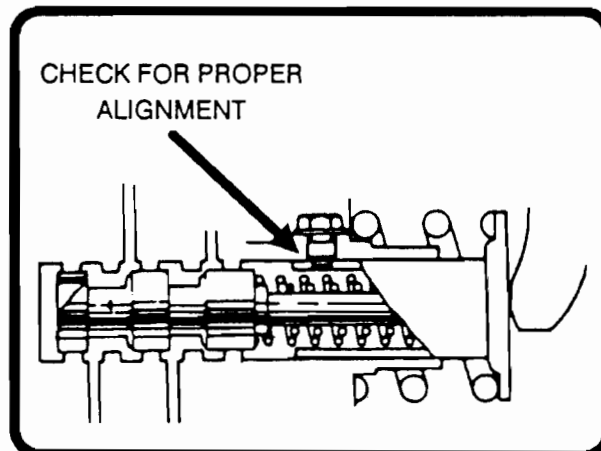

FIGURE 2
- CORRECTION:** When installing retainer and bolt make sure that the slot on the retainer lines up with the bolt hole before installing the bolt (figure 2).